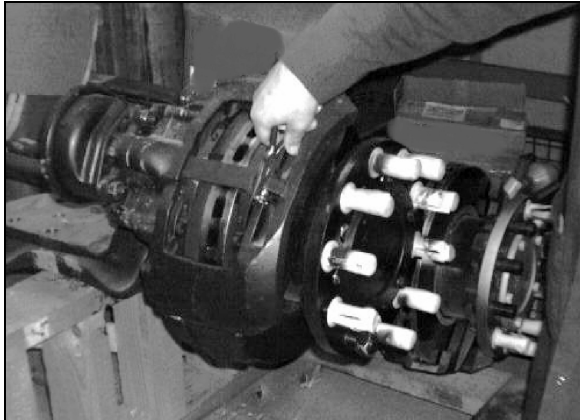

Figure 2
3. Using long nose pliers, remove spring splint pin & washer from brake caliper assy (see Fig. 2).